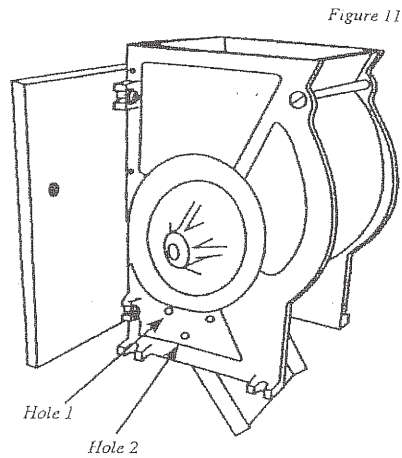

Figure 11
- Slide the Chute up into the Fruit Crusher body. Figure 11 & 12.